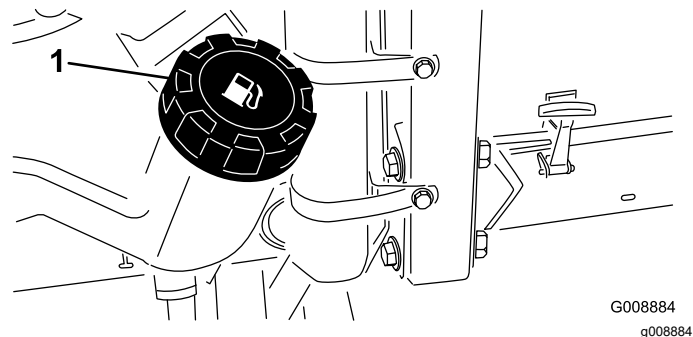

Figure 27
1. Clean the area around the fuel-tank cap (Figure 27).